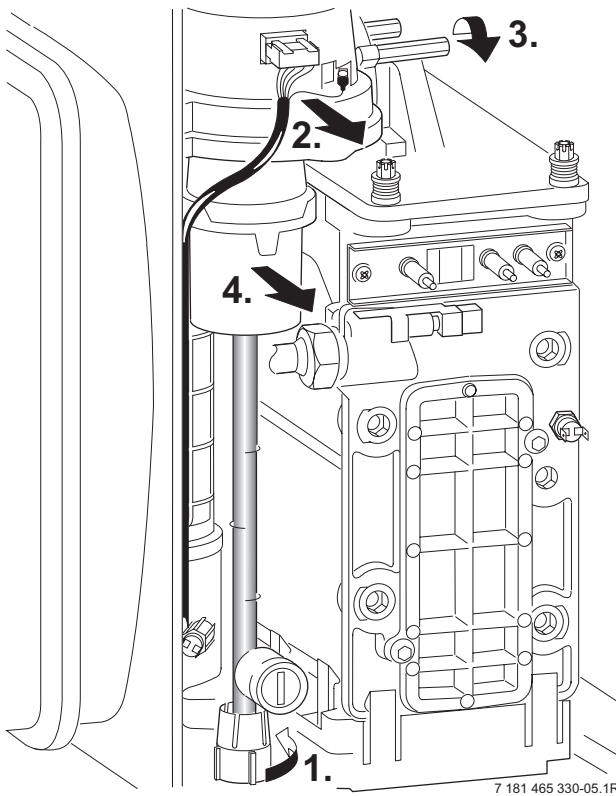

Fig. 60
- ▶ Undo lower pipe union on gas pipe (1.). Refer to fig. 60.
- ▶ Undo the union, within the inner casing, securing the valve to the gas/air tube. Refer to fig. 60.